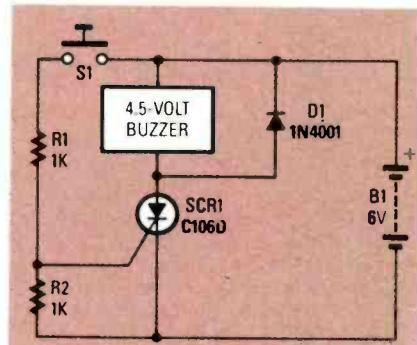

FIG. 6—A BUZZER (or other self-interrupting device) can be used to build an SCR power controller that remains on only so long as S1 is pressed.
Although common-mode rejection ratio is a DC quantity, it is more easily measured with an AC source. The circuit shown in Fig. 6 shows one way of determining CMRR.
**FIG. 6—TO MEASURE CMRR**, use this test setup. With the 1000-Hz source off, adjust R7 for zero volts DC. Next, apply the test signal and measure the output with the oscilloscope. Last, calculate CMRR as discussed in the text.
The DC circuits that we have looked at so far have all used simple resistive loads (lamps), and they have inevitably produced a self-latching action in the SCR's. The circuit shown in Fig. 6, however, shows a simple DC alarm that drives a
The point is that that type of load functions as a switch that repeatedly opens and closes. When a load of that sort is connected to the Fig. 6 circuit, therefore, the circuit does not latch in the normal way, so the alarm operates only as long as S1 is closed. Because of the inductive nature of that type of load, a damping diode (D1) must be wired across it.